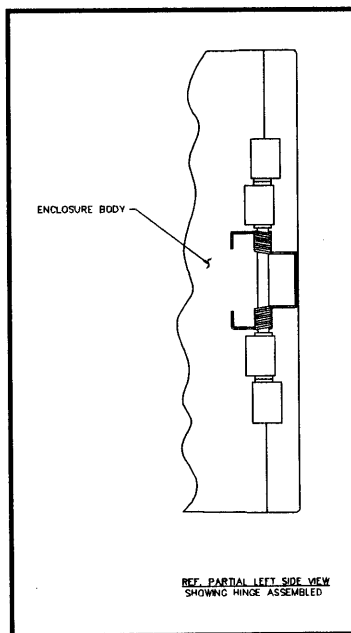

Figure 2.
3. Attach new lower female hinge to enclosure with (2) HSCS screws and (2) washers. Insert spring assembly (spring on pin) into the pin hole in the hinge, making sure that end legs of the spring rest against the side of the enclosure body, and that the closed section of the spring rests over the front edge of the enclosure opening. See Figure 2.